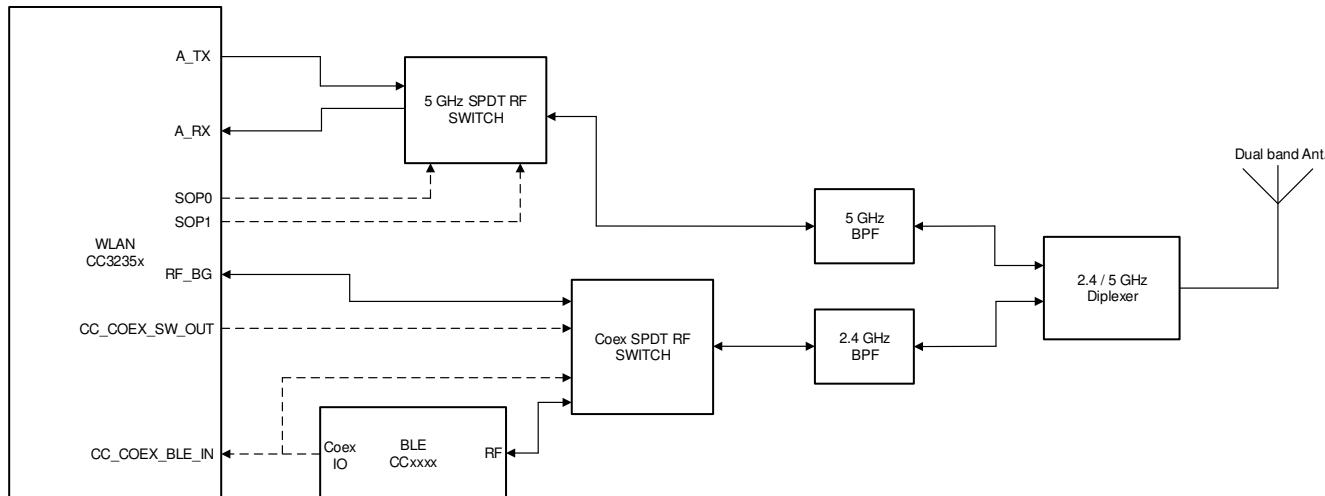

图 9-2. Single Antenna Coexistence Solution with 5GHz Wi-Fi
- 5GHz Wi-Fi band (see 图 9-2)
图 9-2 shows the single antenna implementation of a complete Bluetooth® low energy and WLAN coexistence network with the WLAN operating on either a 2.4- or a 5GHz band. The SOP lines control the 5GHz switch. The Coex switch is controlled by a GPIO signal from the BLE device and a GPIO signal from the CC3235x device.